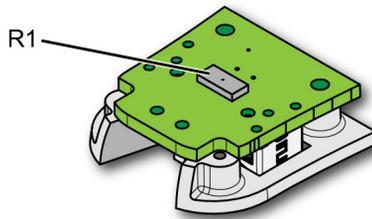

Figure 29 Location of  $R_{\text{SENSE}}$  Resistor (R1)
- 4 Change or add the  $R_{SENSE}$  resistor (**R1**) as shown in Figure 29.